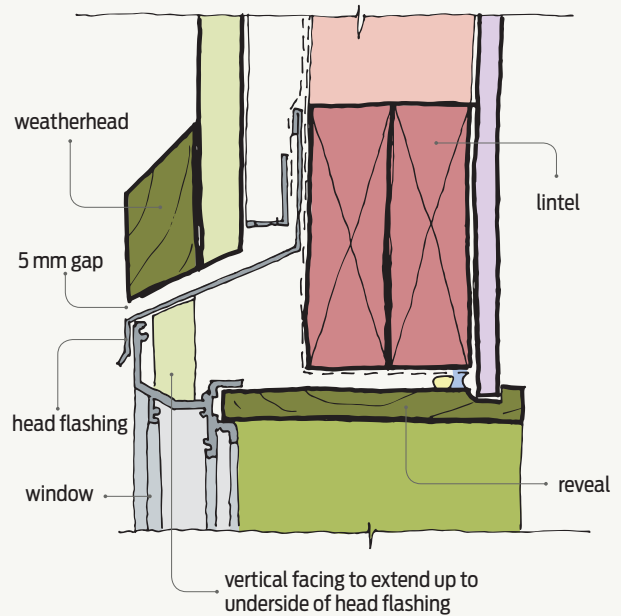

Figure 4 Head detail for flashing the top of the facing.
- Flashing the top of the facing – the traditional way timber windows were detailed (see Figures 4 and 5). ◀